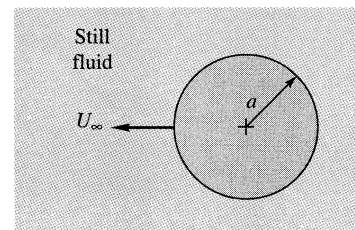

Fig. P8.104
**8.104** Consider a cylinder of radius  $a$  moving at speed  $U_\infty$  through a still fluid, as in Fig. P8.104. Plot the streamlines relative to the cylinder by modifying Eq. (8.32) to give the relative flow with  $K = 0$ . Integrate to find the total relative kinetic energy, and verify the hydrodynamic mass of a cylinder from Eq. (8.104).